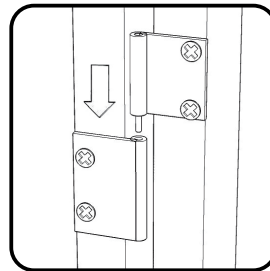

Figure 6
Attach Doors (K) and (L) to unit by sliding door hinges into side panels hinges. (See Figure 6)